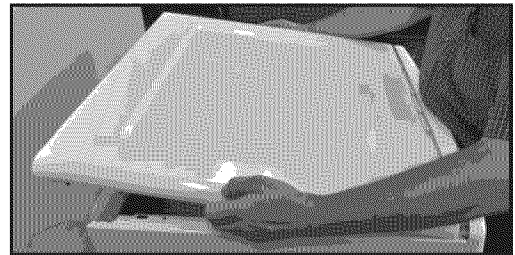

FIGURE 2
3. Remove dryer top by sliding top toward rear of dryer and lift to remove. See *Figure 2*.